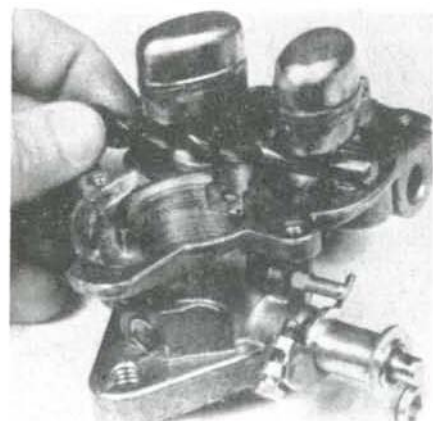

Fig. 45—Drill bit of correct size can be used as shown to check float height.
Assemble by reversing the disassembly procedure, using new gaskets and packing. Install throttle plate (1) so beveled edges will fit throttle body bore with throttle closed, with side of throttle plate farthest from mounting flange aligned with idle port. Adjust float height to 7.14 mm (9/32 inch) for MF230 models, 3.97 mm (5/32 inch) for MF235 and MF245 models. Measure float height from gasket to nearest edge of float as shown in Fig. 45. Drill bits can